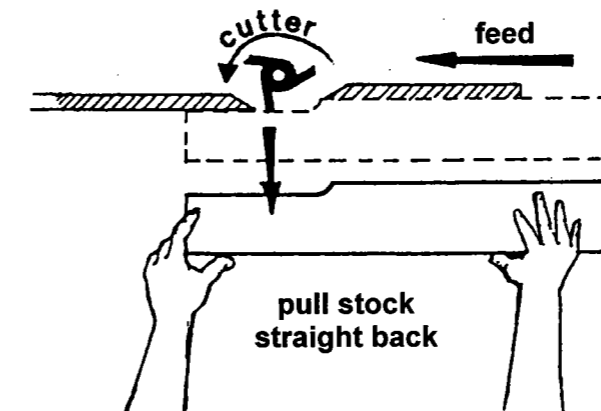

FIGURE 2
**FEED STOCK** opposite to the direction of the cutter rotation. Never back stock out of the cutter once the cut has been started. Instead, pull the stock straight back away from cutter and begin the cut again. See Figure 2.